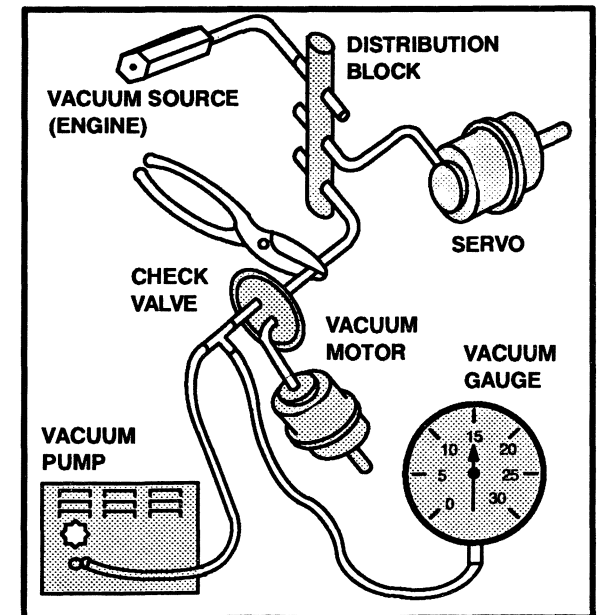

Figure 2 - Testing For Leaks In Typical Vacuum System
1. Connect Vacuum Gauge and Vacuum Pump (Figure 2) to system hose in place of tank.
3. Clamp supply hoses with needlenose pliers, one at a time, until vacuum stops dropping (Figure 2).